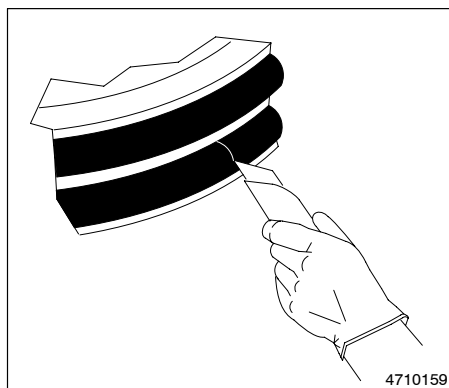

Fig. 7-2 Cutting the TES Seal from the Platen Groove
5. See Figure 7-2. (TES seals) Carefully cut the old platen seals from the platen seal grooves.